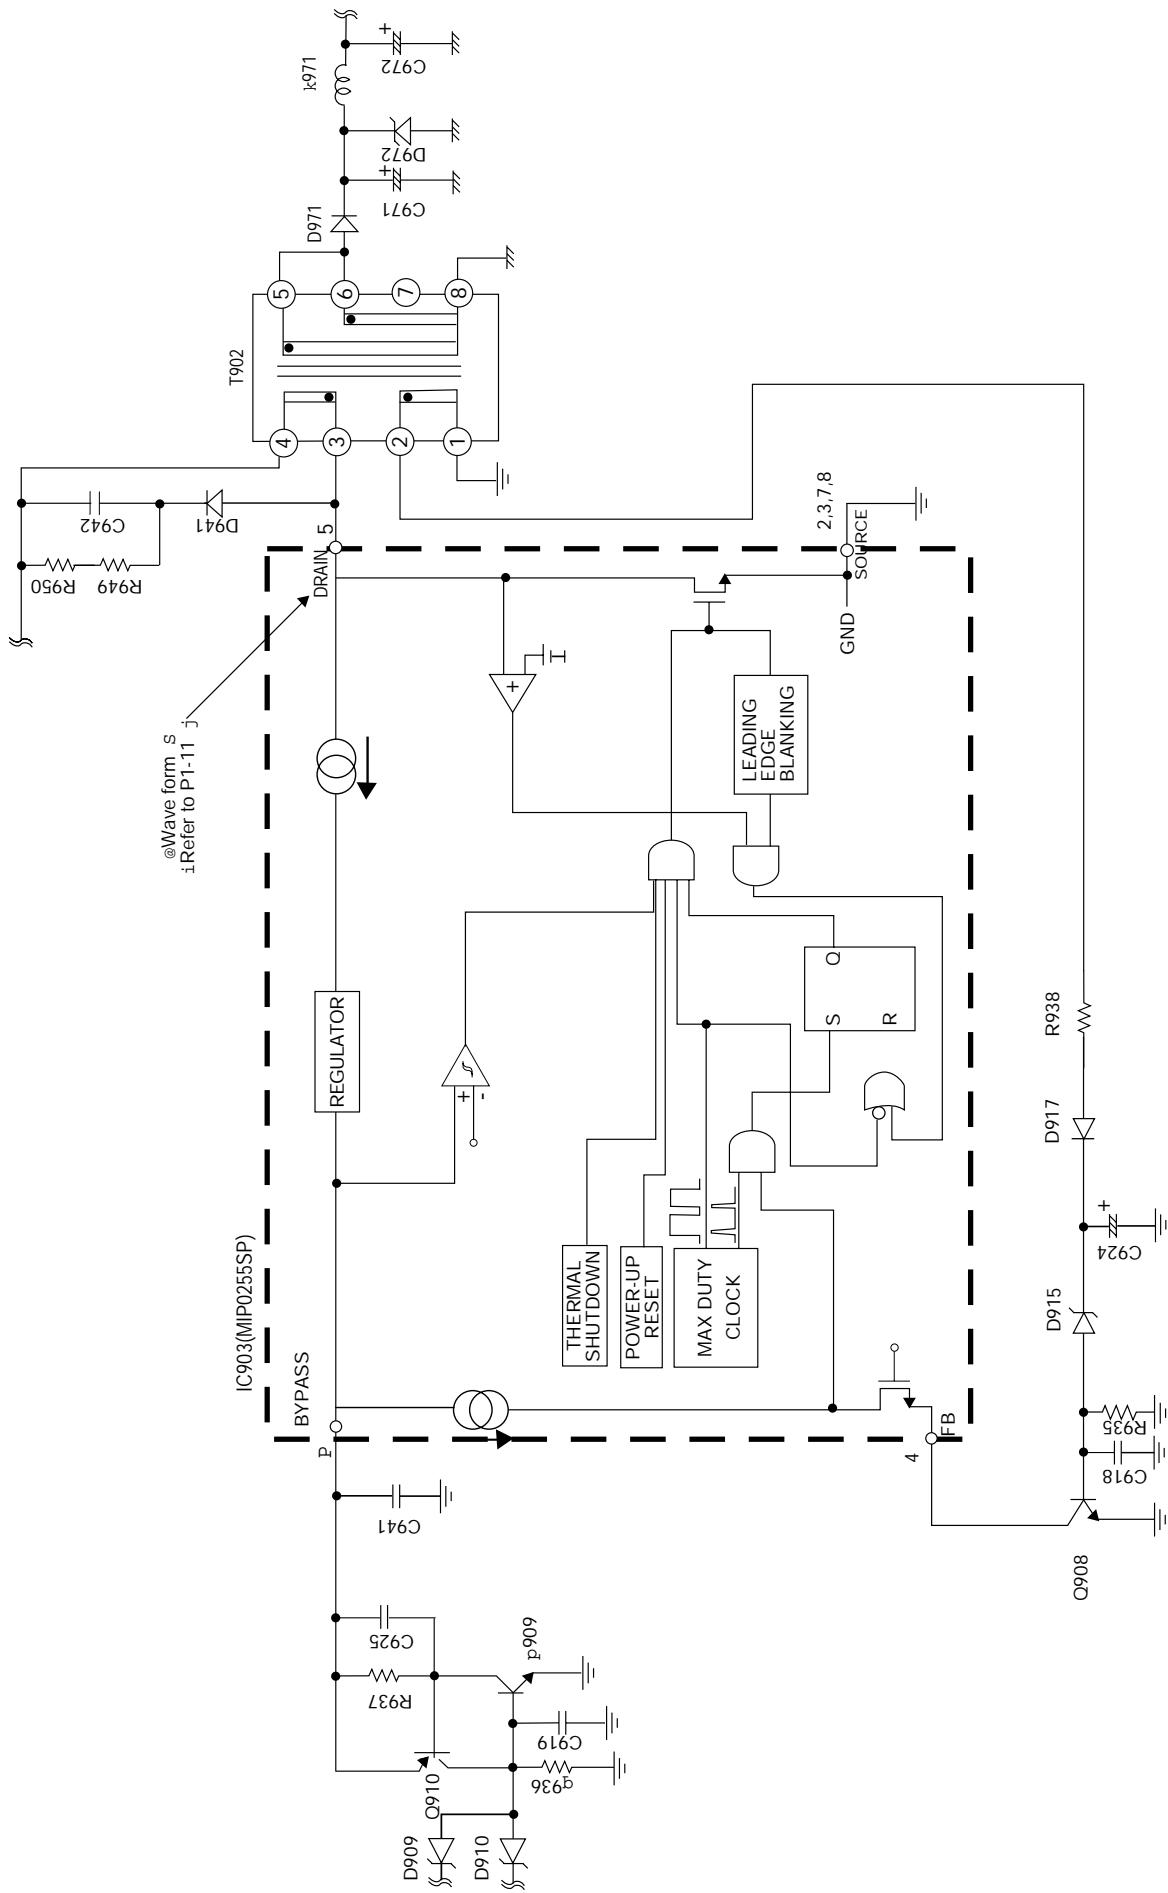

Figure 3. IC903 (MIP0255SP) block diagram and peripheral circuit
- (1) The sub power uses the self-excited type regulator MIP0255SP (IC903) produced by Panasonic. (See Fig.3)
- (2) When the power switch is turned ON, the rectified and smoothed DC voltage (AC voltage $\times \sqrt{2}$) is supplied to pin5 of IC903, and is charged to C941 through Pin 1. When pin1 reaches 5.7V, the current supply from pin3 is cut off to start oscillation in IC903, and the output FET is put into operation. (Since Q902 is OFF, IC902 and IC 903 do not operate.)
- (3) This also induces the voltage at pin2 of T902 and on the secondary side. These outputs are respectively rectified, and are used as the power for control on the primary side and the power for the MPU and heater.
- (4) The voltage fluctuation on the secondary side is restricted by controlling the current in pin 4 of IC903 (F/B terminal) by using the induced voltage in pin2 of T902.